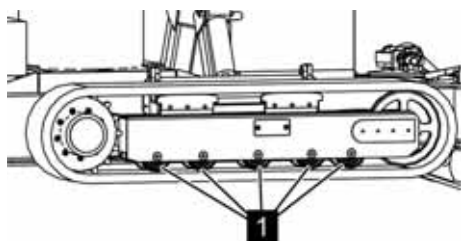

Fig. 134: Lid and cover
2. ➤ The rollers (Fig. 134/1) must turn by hand.